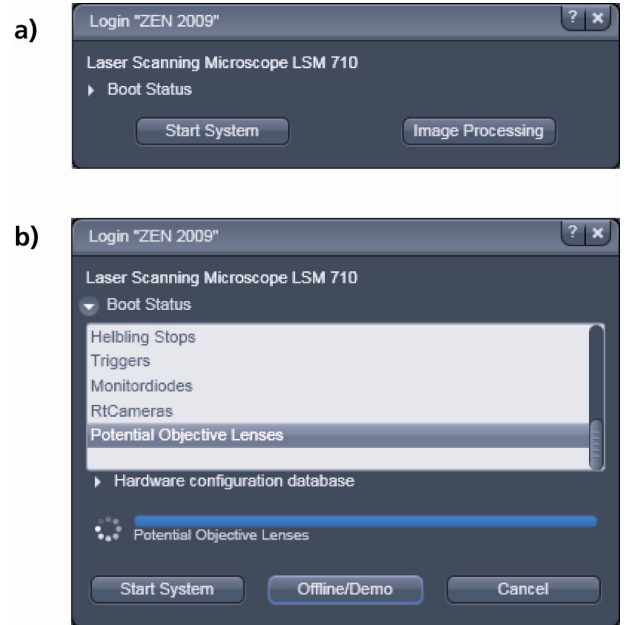

Fig. 3-3 Starting the ZEN software
The ZEN software is started by double clicking the ZEN icon. The login panel (Fig. 3-3/a) appears on top of the ZEN Main Application window. The software can be operated in three different modes.
- The **Offline/Demo** mode reads the active hardware database and simulates the respective hardware. This button is only available after opening the boot status display by clicking the little arrow left of the text "Boot Status" (Fig. 3-3/b).